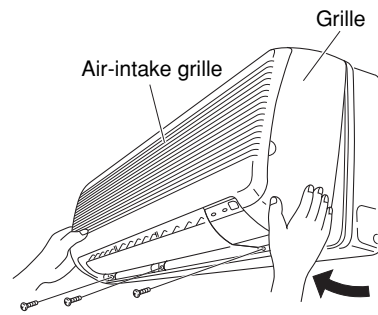
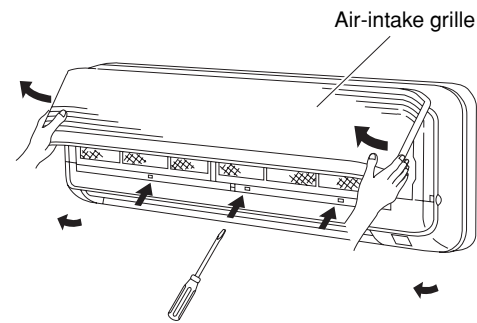

Fig. 3-40a
Fig. 3-40b
- (1) Set the 2 flaps in the horizontal position.
- (2) Unscrew the 3 screws. (Fig. 3-40a)
- (3) Remove the grille.
- (a) Hold both corners of the air intake grille, then pull out and up to open. (Fig. 3-40b)
- (b) Use a standard screwdriver to push up the 3 tabs to remove the grille. (Fig. 3-40b)
- (c) Pull the lower part of the grille toward you to remove. (Fig. 3-40a)